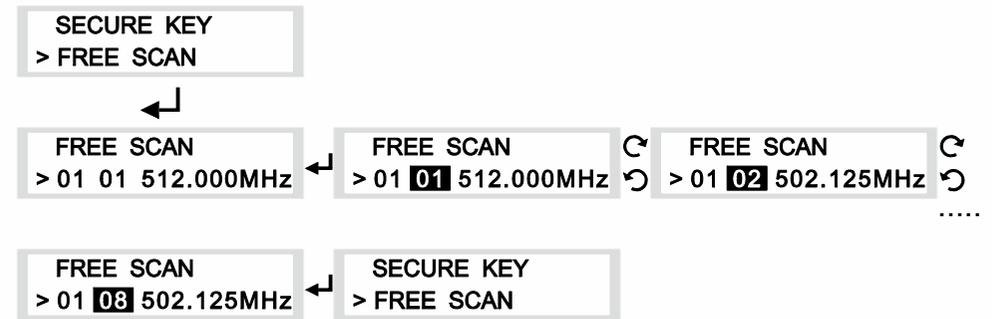

Fig. 30
(M) FREE SCAN: Scan for an interference-free transmitter channel, Fig. 30